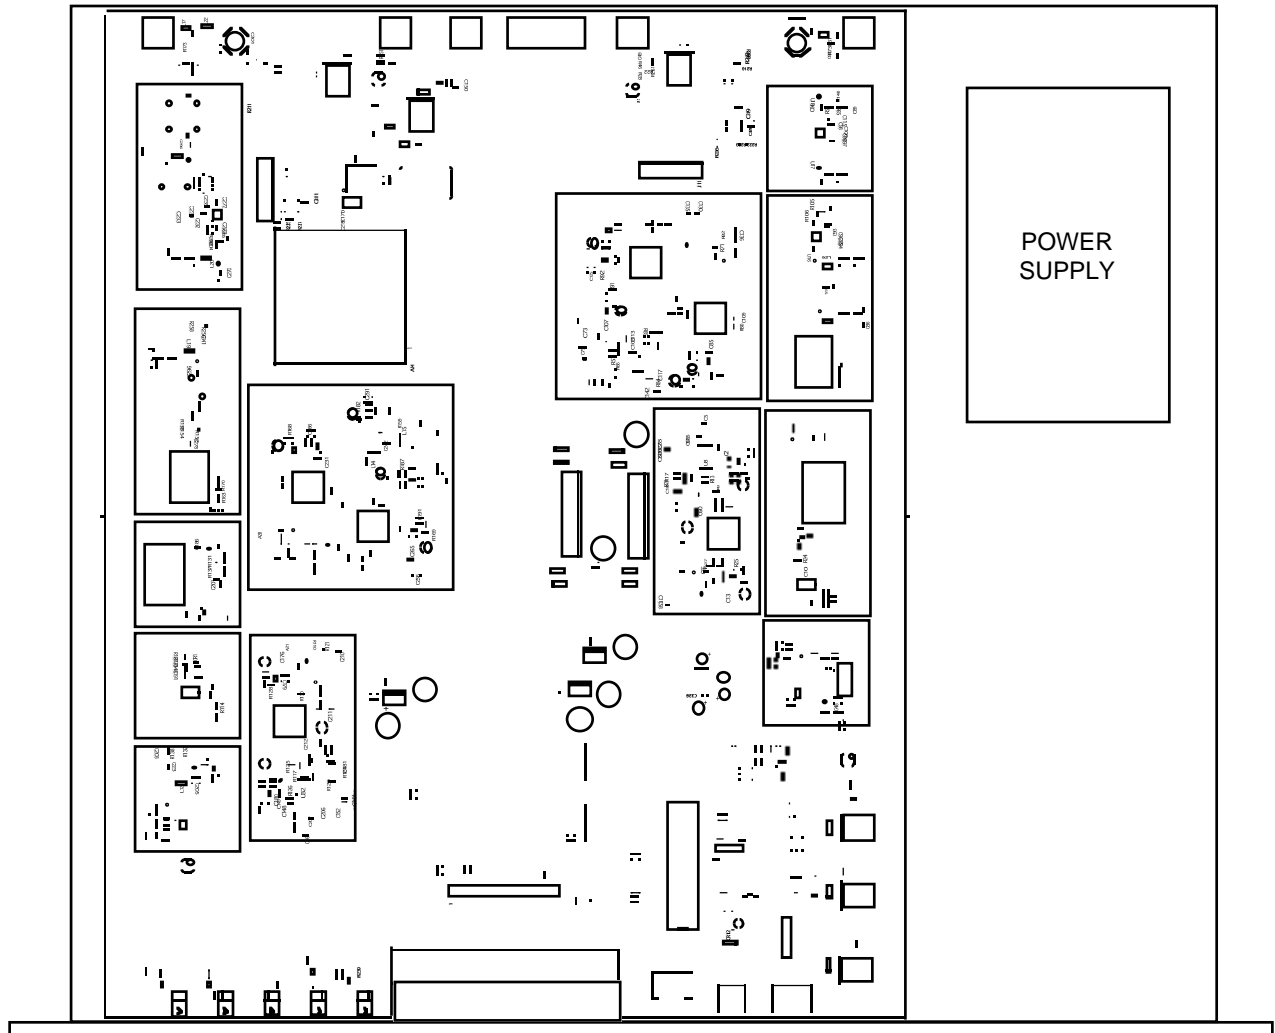

Figure 2.0 Model 2017-03A Mechanical Assembly
2.1 Mechanical - The 2017-03A consists of one RF/Controller PCB housed in a 1 RU (1 3/4 inch high) by 16 inch deep chassis. A switching, ± 12 , +5, +24 VDC power supply provides power for the assemblies. The 2017-03A can be secured to a rack using the 4 holes on the front panel. Figure 2.0 shows how the 2017-03A is assembled.